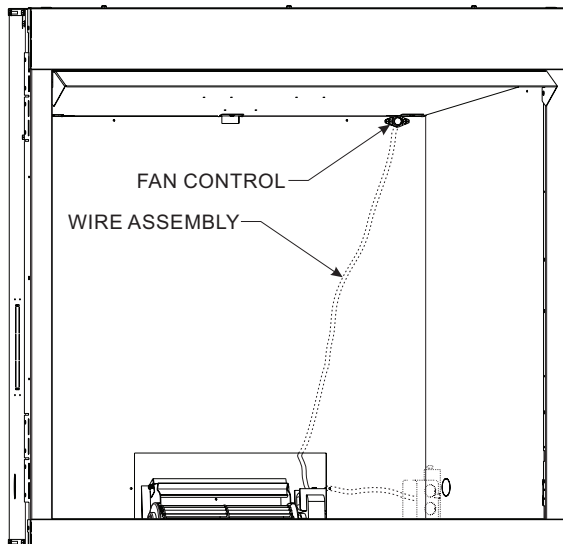

Figure 23
5. Next, find the fan control switch and wire assembly. Feed the wires through the hole at the top of the firebox, and secure the fan control switch with the two screws provided. **See Figure 23.**
6. The fan control wires will slide down between the firebox and outer wrap near the blower assembly. **See Figure 23.**